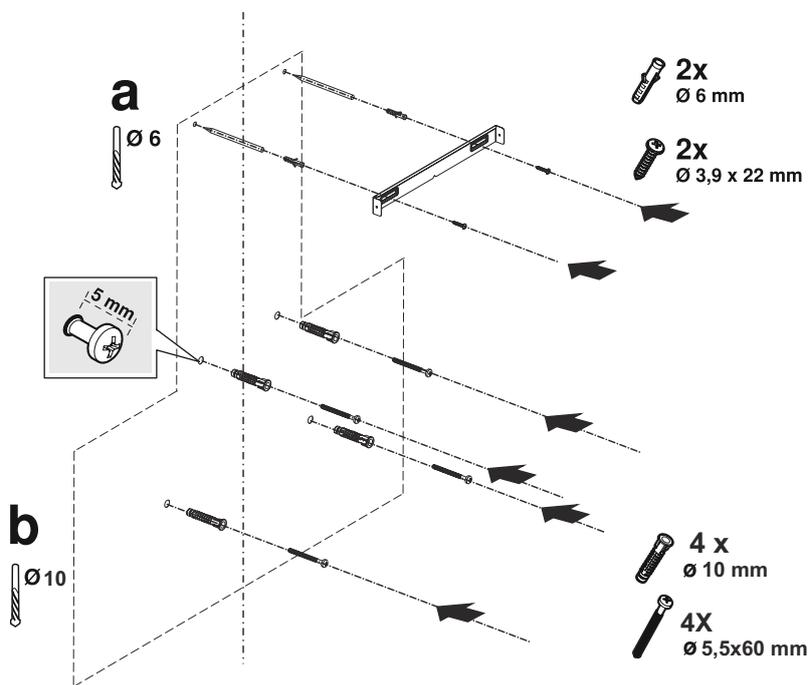

Fig. 14
Drill the marked points with Ø 6 mm drill and insert 2 pieces of Ø 6 mm plastic dowels in the drilled holes (Fig. 14/a).
Fix the flue connection plate to the wall with 3.9x22 screws (Fig. 14/a).
3. ➤ To drill the suspension holes of the flue, place the mounting template on the surface where the appliance will be mounted on and mark the mounting holes (Fig. 14/b).
4. ➤ Drill the suspension holes with Ø10mm drill and place the dowels (Fig. 14/b).
2 piece 5.5x60 suspension screw with a clearance of 5 mm between the screw head and the wall (Fig. 14/b).